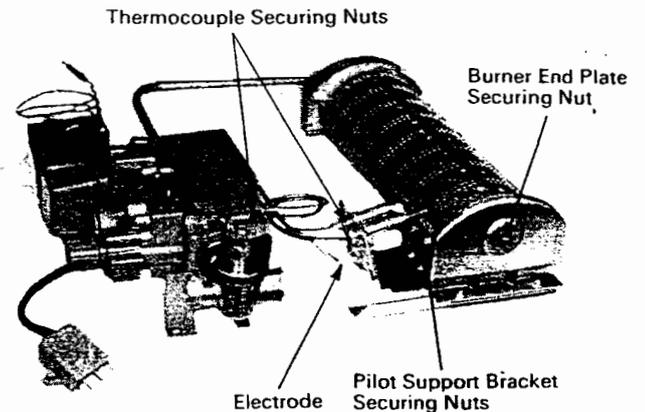

Fig. 18. Burner and Controls (i)
12. Clean the Burner (Fig. 18 and 19)
- (b) Remove the nuts and washers securing the pilot bracket to the burner (Fig. 18).
Thermocouple (Fig. 18)
Spark Electrode (Fig. 18)
Burner (Figs. 18 and 19)